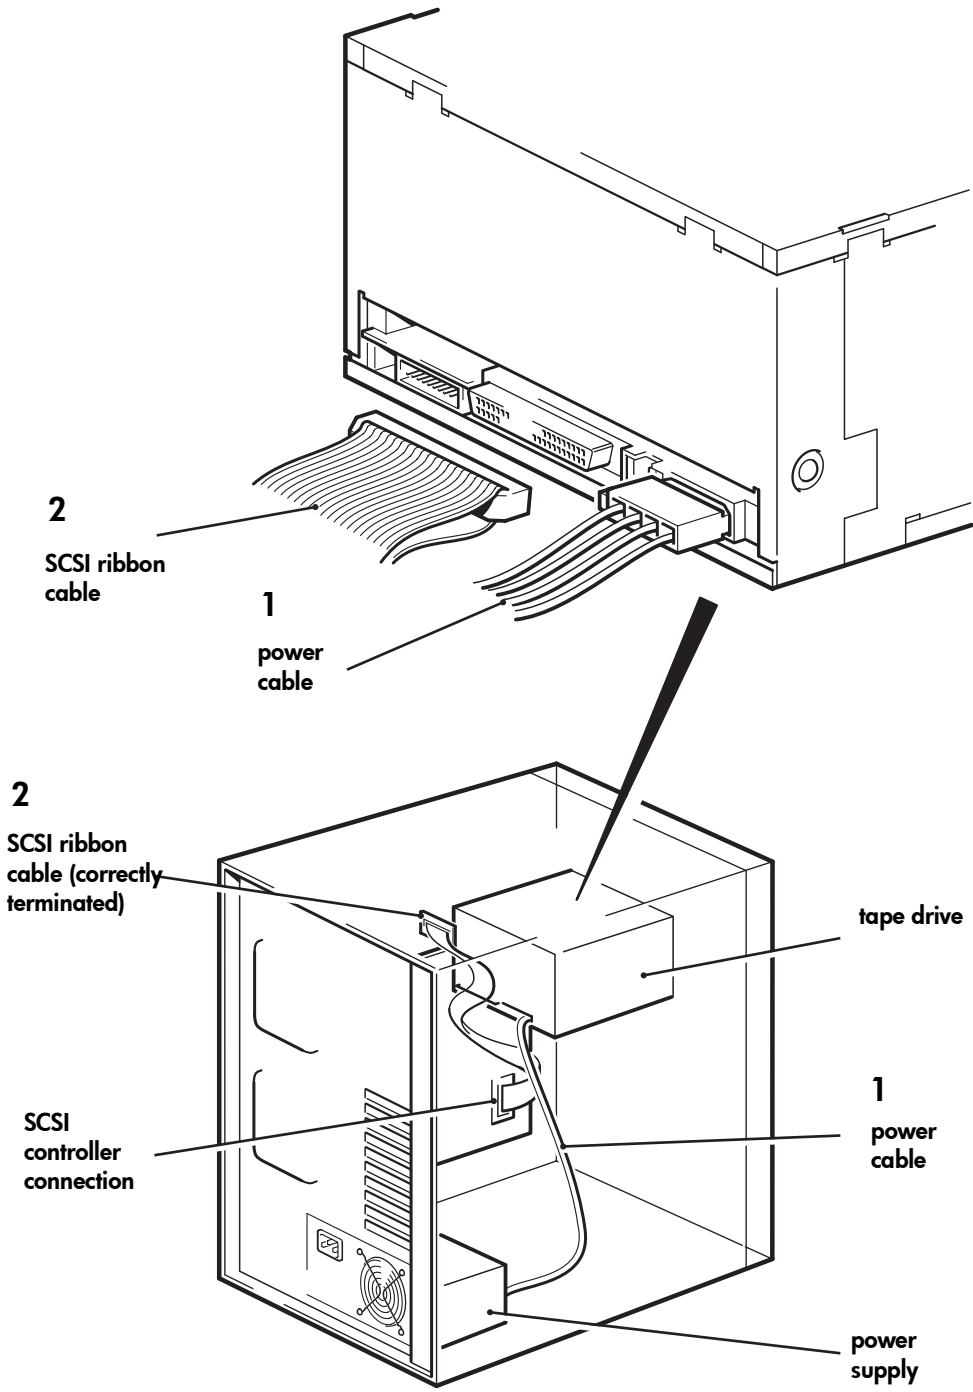

Figure 7: attaching power and SCSI cables
- 1 Attach a spare power cable from the server's internal power supply to the power connector, as shown in Figure 7, item 1.
- 2 Attach a spare connector on the server or HBA's SCSI ribbon cable to the SCSI connector of the drive, as shown in Figure 7, item 2.
Therefore, assuming the HBA is the first device on the bus, you should check that the second terminator is placed after the last device, as shown in Figure 7, item 2.